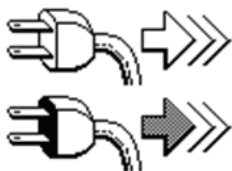

Figure 18
1. Unplug the charging cord (if necessary) (Figure 18). If the cord is still plugged in a reminder will display on the VCM when the key switch is turned on.